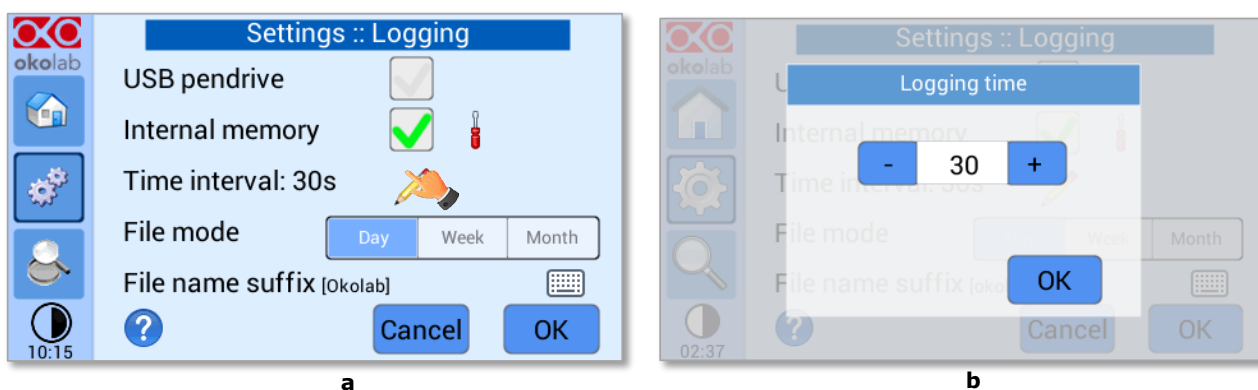

Figure 58. How to set the logging time (a – b)
- Press on the icon  to insert the *Time Interval* i.e. the frequency with which you want to record a data point, as shown in Figure 58. In this example a data point is logged every 30 seconds, you can change *Time Interval* in the range 1-60 seconds.
- Choose how you want to organize the data when downloaded, by pressing on Day, Week or Month, see Figure 58 (a).
Tip ► With the selections as in Figure 58 and in Figure 59, the data will be downloaded on the USB drive as shown in Figure 60.